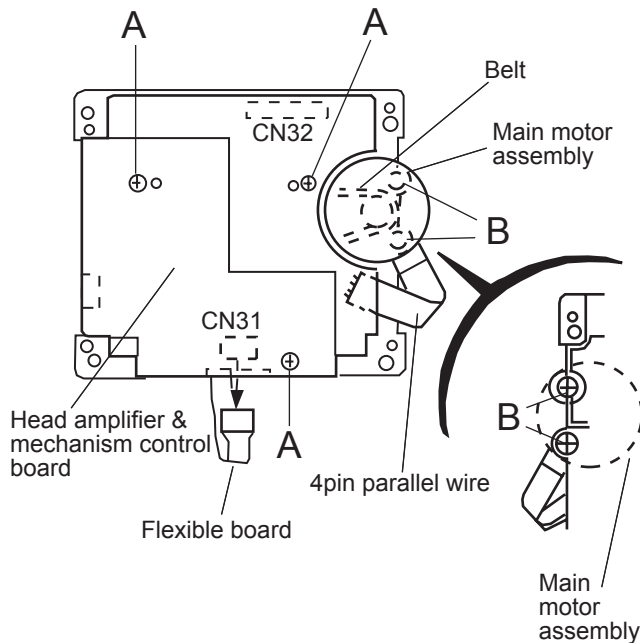

Fig.4
(See Fig. 4)
- (1) Remove the two screws **B** retaining the main motor assembly (See Fig. 4 and 5).